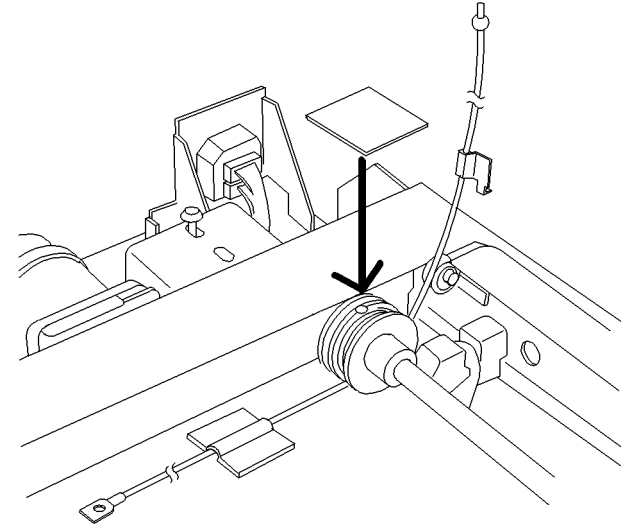

Figure 6 Locking Cable
- c. Wind cable (ball side) onto pulley for 2.4 turns. Tape and lock cable wound on pulley (Figure 6).